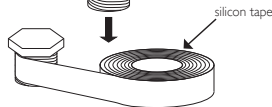

Fig. 4.5
12. If applicable, use silicon tape to thoroughly wrap and seal the hanger connector sealing bolt (fig. 4.5).